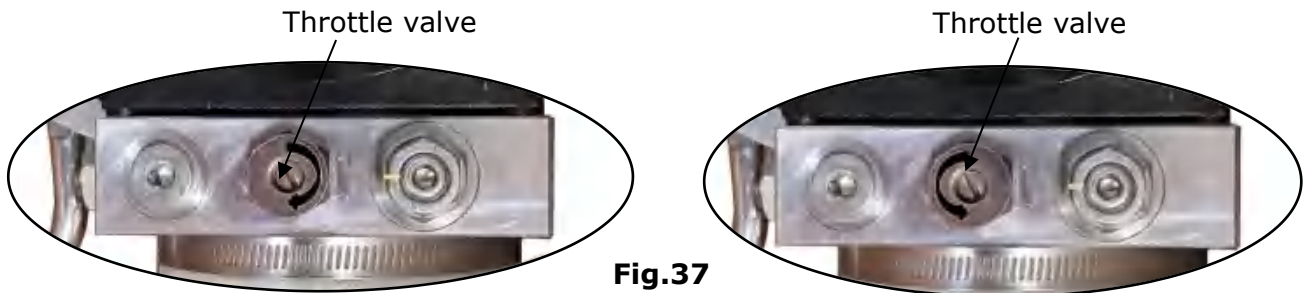

Fig.37
1. Adjust the lowering speed (Fig.37)